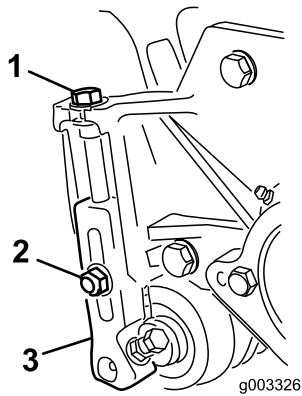

Figure 10
- 3. Loosen the locknuts securing the height-of-cut brackets to the cutting-unit side plates (Figure 10).